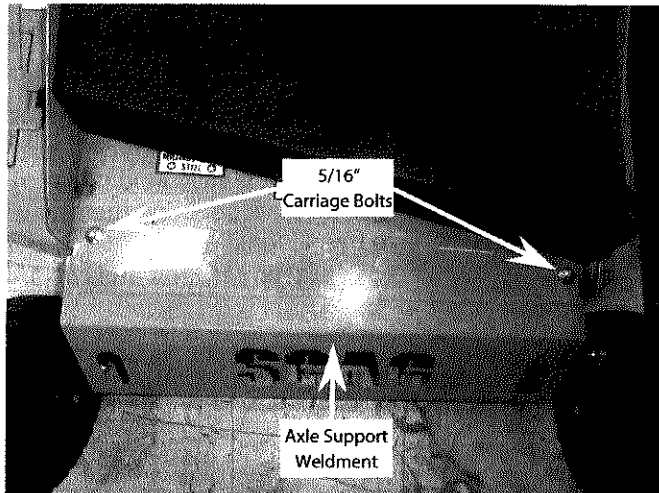

Figure 3
6. Locate the two 5/16" carriage bolts mounting the axle support weldment to the top of the cutter deck at the front of the unit. See Figure 3. With caution, raise the front of the machine safely to provide access to the underside of the cutter deck. Remove the two 5/16" elastic stop nuts and 5/16" carriage bolts from the axle support weldment and cutter deck. Discard the 5/16" carriage bolts and 5/16" elastic stop nuts.